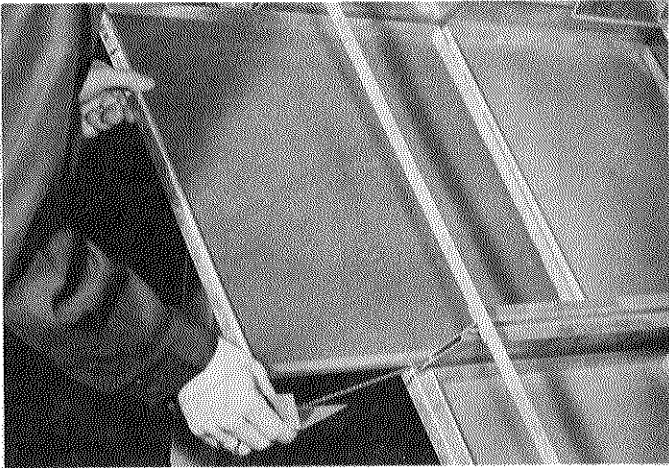

FIGURE 122
- 1 - Remove access panel from the damper/filter cabinet to expose banks of filters. Grasp the bracket on chain at bottom of each bank. Simply pull chain and bring out filters. Refer to Figure 122.